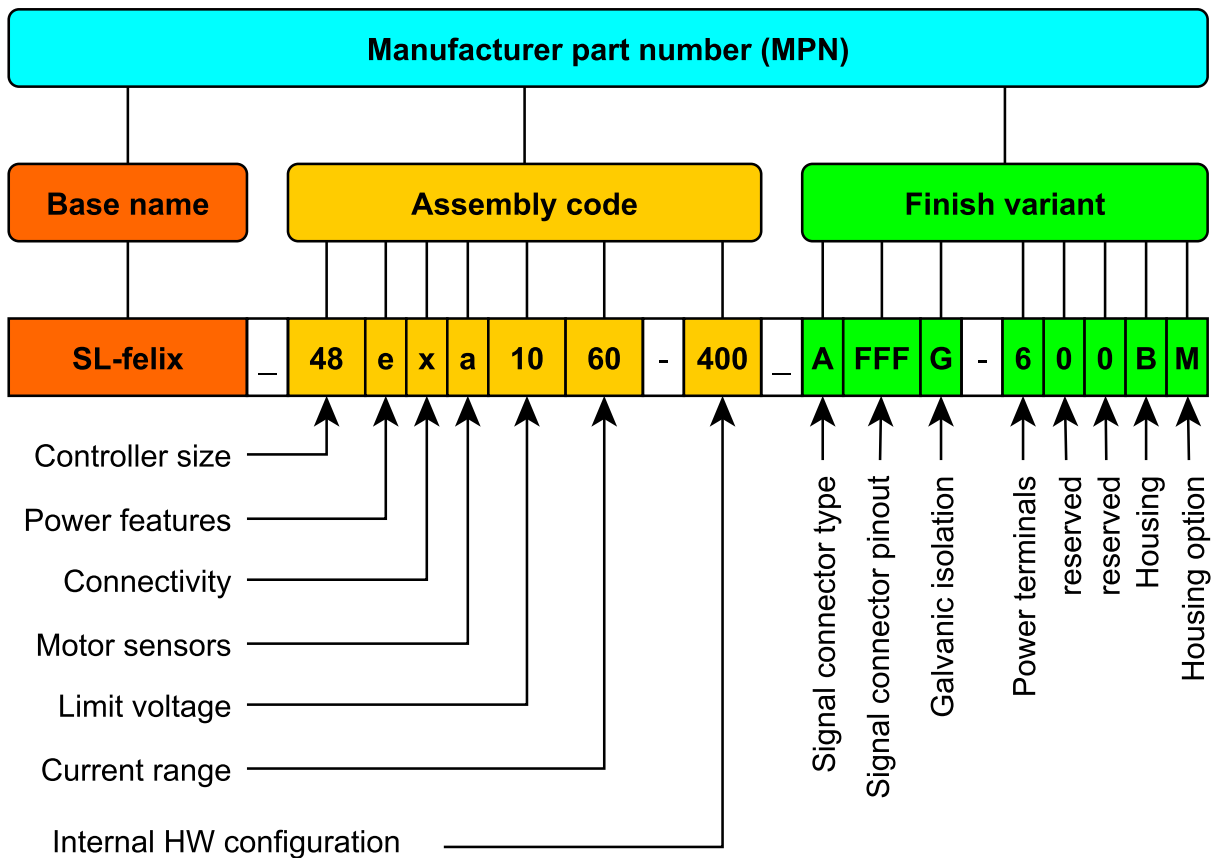

Figure 3.2: Example of MPN
*MPN* consists of several parts, as shown in the figure 3.2. First part of the *MPN* is so called *Base name*. This name denotes firmwares that could be loaded into the product. For each *Base name* could be available one or more firmwares. Examples of *Base names* and compatible firmwares:
The SL controller is very versatile product. To match all specific requirements, multiple properites can be adjusted, so many variants exists. Different variants are denoted by different *MPN*. Each field in the *MPN* stands for one thing, that can be configured. *MPN* consists of many fields (as shown in the figure 3.2) and each field can be configured almost independently. This gives very large amount of available configurations. The most common combinations are referred as *standard variants*, *default variants* and also as controller *models*.
Three characters marked as *Signal connector pinout* in figure 3.2 are used to describe different pinout variants of the signal connector. Some pins (listed in table 3.4) has two possible functions. If the one function is configured, corresponding bit is 1, if the other function is configured, corresponding bit is 0. Together it created binary number of 12 digits. This binary number is converted to hexadecimal format. It gives the three characters of *Signal connector pinout*.